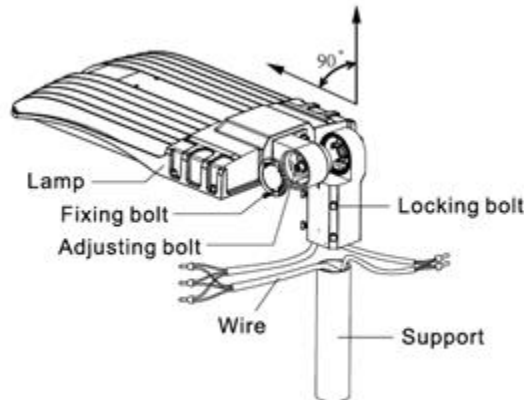

Figure 1-1
- a. Loosen the 4 locking bolts on the slip fitter, connect the wire correctly and put the wire into pole. Then fasten the locking bolts between slip fitter and the pole (Figure 1-1)
- b. Loosen the fixing bolts and adjusting bolts, align the fixture to required angle. Tighten adjusting bolt and fixing bolts after the angle is confirmed. (Figure 1-1)